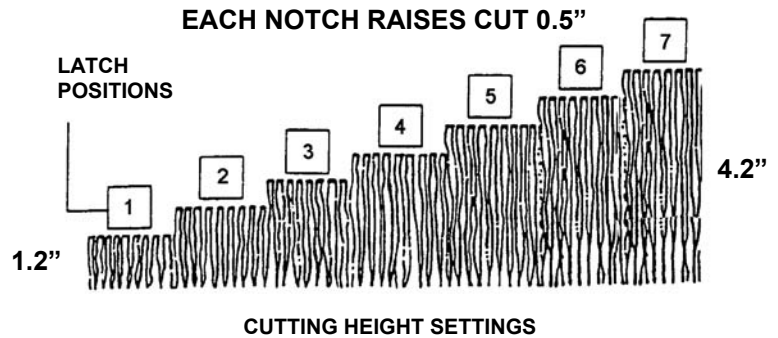

FIGURE 2.10
2. Set all wheels at the same cutting height. The highest cutting position is Notch 7. The lowest cutting position is Notch 1. See Figure 2.10.